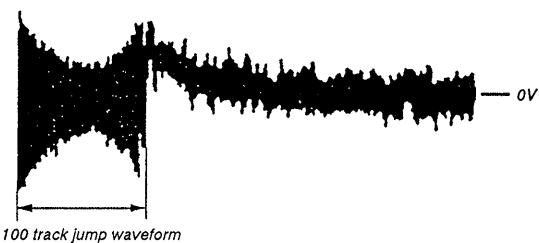

Fig. 3
7. Press **▶(▶)** or **◀(◀)** keys and observe the 100 track jump waveform. Check that no traverse waveform appears for both **▶(▶)** or **◀(◀)** directions. (See Figures 3 and 4.) It is acceptable if the traverse waveform appears only now and then, but if it appears constantly raise tracking gain slightly and check step 7 again.